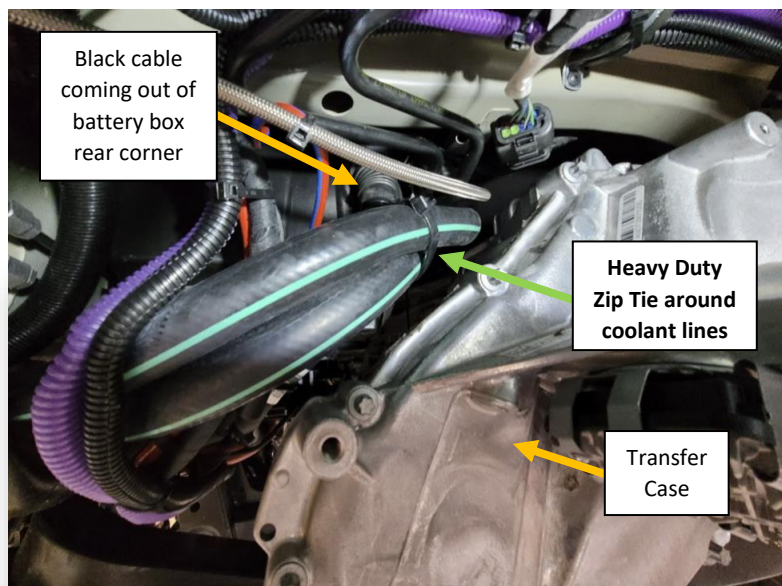

Figure 7
12. Add the 2nd heavy duty zip tie around the coolant lines and the negative (black) battery cable that comes out the rear inboard corner of the battery box. Position the zip tie toward the top of the battery cable so it pulls the coolant lines away from the transfer case considerably as shown in figure 7.